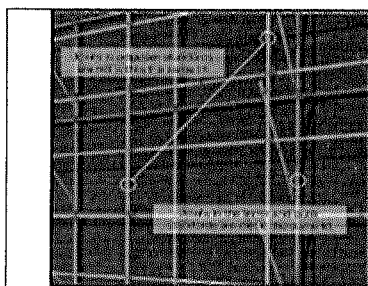

Figure 75 Staggered Joints
- Where the scaffold is sited adjacent to an excavation, edge of a slope or embankment, the sole boards must be set back at least 1.5times depth from the edge. (As shown in figure 75)